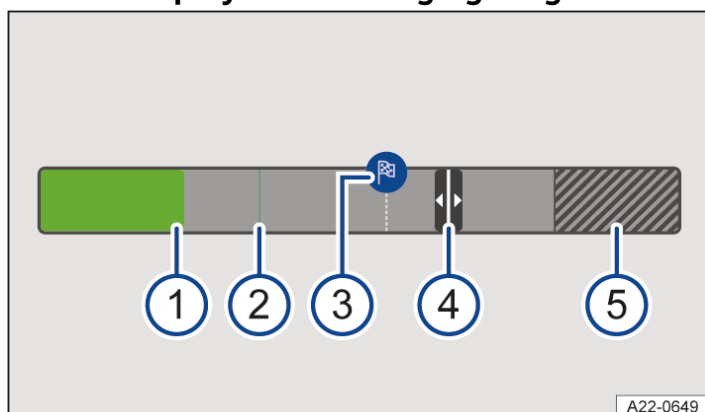

Fig. 2 Infotainment system: charging ranges and touch slider.
- ① Currently reached charge level of the high-voltage battery.
- ② Lower battery charge limit set in the profile of the charging location.
- ③ Active navigation of the Electric Vehicle Route Planner: automatically calculated lower battery charge limit for planned charging stops.
- ④ Touch slider for the upper battery charge limit.
- ⑤ Charging range above 80%, e.g. for long journeys.
The graphic representation of the charging ranges in the middle of the screen shows how the high-voltage battery capacity is currently being used. The current charge level is shown filled in colour → Fig. 2 ①.
In the case of electric vehicle route planning, the  symbol is displayed → Fig. 2 ③. The high-voltage battery will be charged so that the vehicle range is sufficient to reach the next charging stop (→ Navigation). If a higher battery charge limit has been set, the vehicle will continue to charge until this is reached.